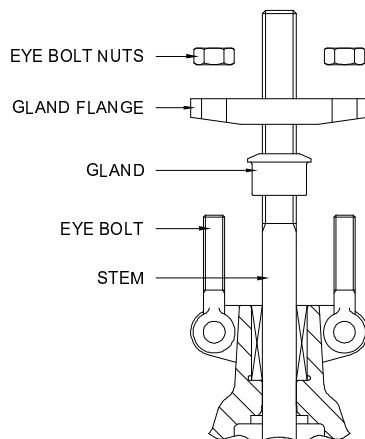

Figure 1
1. Check the original tightness of the valve operation. Remove the eye bolt nuts. Lift the gland flange and gland up the stem, clear of the packing well and loosely tie them off with string or wire (see Figure 1).